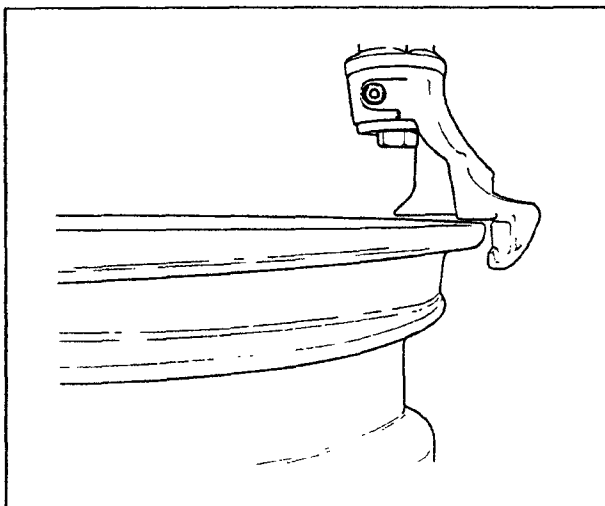

Fig.11
E. Position the mount/demount head in contact with rim edge and lock it into place: the tool automatically moves away from the rim edge vertically. Turn the adjustment knob until the mount/demount head clears from the rim flange about 1/16" (2mm): this is necessary to avoid any rim damage (Fig.11).